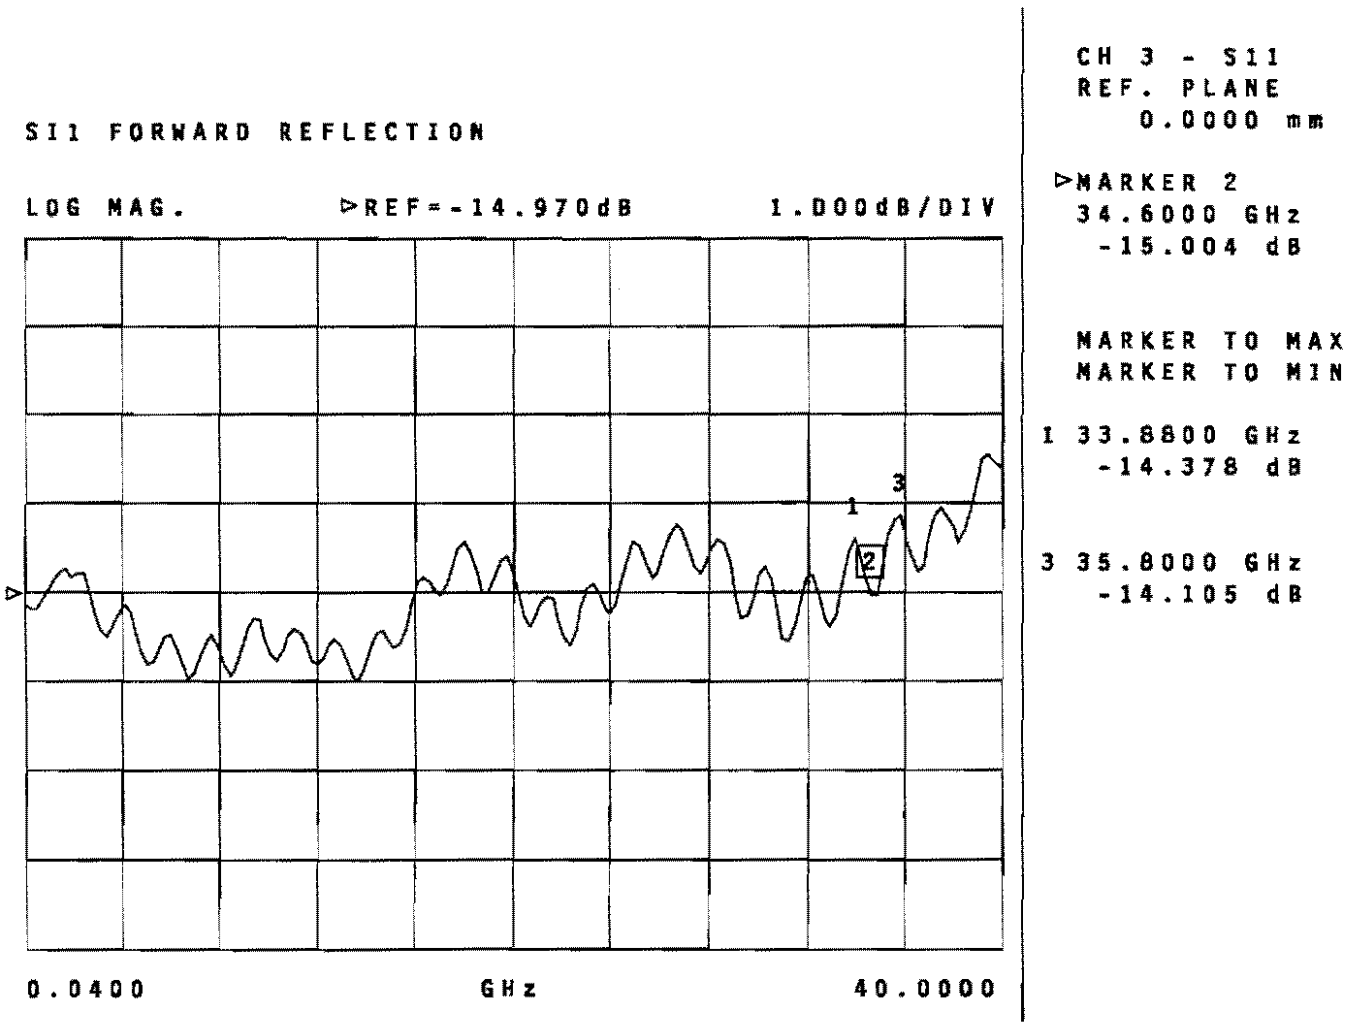

Figure 3-6. Effective Directivity Test Waveform
- Step 4.** Using rotary knob, position markers 1 and 3 to adjacent peaks of the worst-case ripple (one with the greatest amplitude); position marker 2 to the bottom of the trough (Figure 3-6).